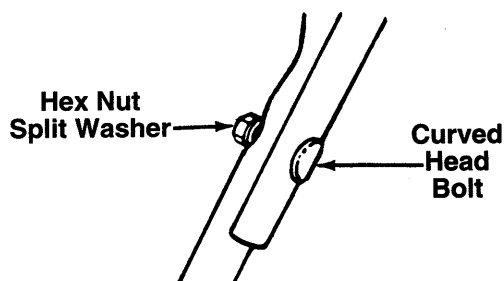

FIGURE 2.
2. Secure the upper handle to lower handle using the curved head bolts, split washers and hex nuts as shown in figure 2. Tighten securely.